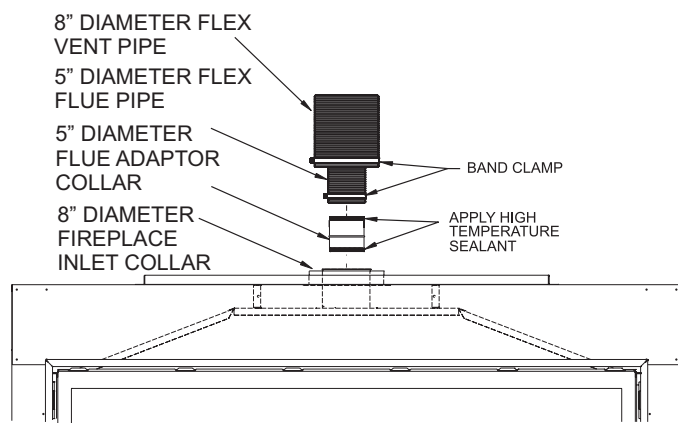

Figure 62
10. Apply sealant to the outside of the flue pipe adapter and connect to the flex flue pipe. Then insert the adapter into the fireplace flue. Secure flue adapter to the fireplace flue with a minimum of two screws provided. **See Figure 62.**